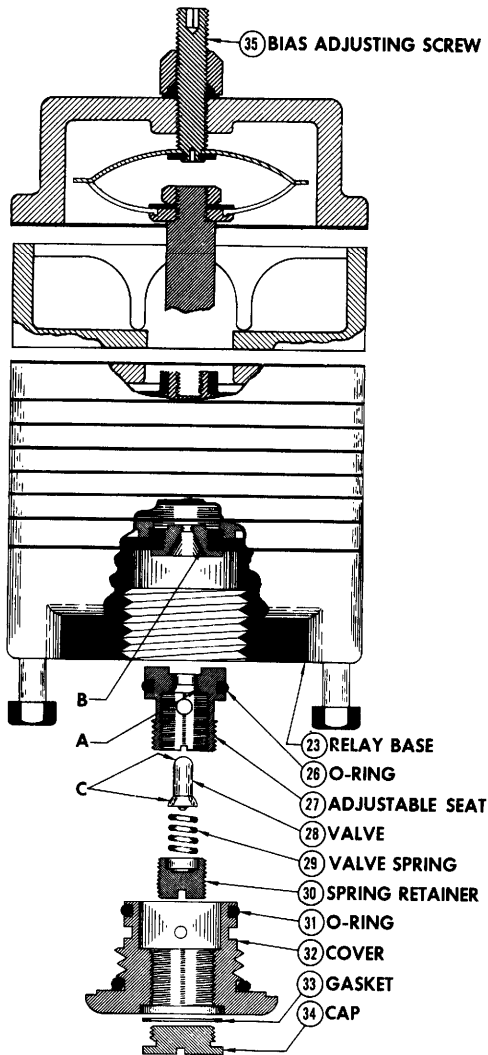

Figure 3
The simplified design of the relay makes routine maintenance unnecessary. However, should the air or the air lines be dirty, it may be necessary to clean the surfaces of the Valve (28) and the Valve Seats (A and B in Figure 3). If continued difficulty is experienced from dirt, moisture, oil, etc., suitable filters should be provided in the supply lines.
If the control pressure does not go to zero, or minimum output pressure or if the exhaust appears to be leaking: See Figure 3.
2. Inspect the Valve (28) surfaces for bumps, scars or other irregularities. The Hemispherical Surfaces (C in Figure 3) must be smooth and regular.
3. Inspect the Valve Seats (A and B in Figure 3). These surfaces must be clean and smooth with no scars or surface irregularities.
4. Inspect Diaphragms (15) for holes or worn spots which might permit air leakage.
5. Install the complete cover assembly in the Base (23) and make sure that the Valve Spring (29) is seating the Valve (28) properly.